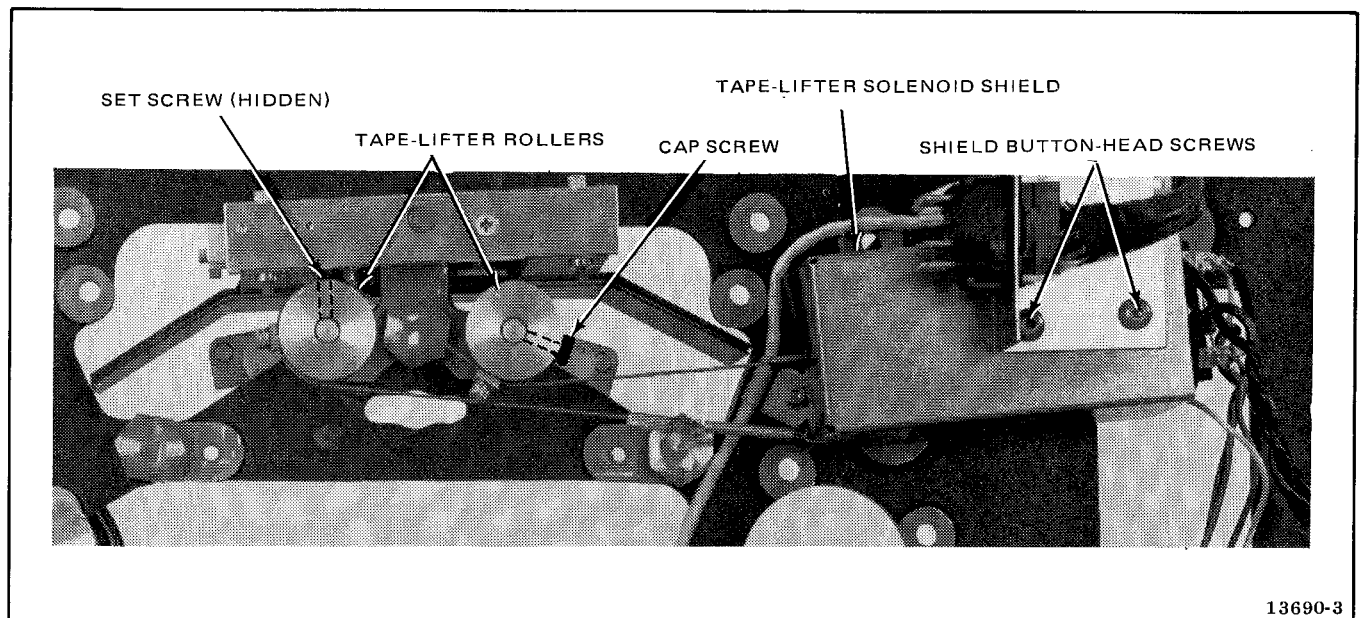

Figure 5-27. Tape Lifter Rollers and Solenoid, Rear View of Transport
2. Loosen two button-head screws (Figure 5-27) that hold the tape-lifter solenoid shield to the solenoid.
5. Loosen the 6-32 cap screw in the tape-lifter roller (Figure 5-27) nearest the tape-lifter solenoid. Then lightly tighten the screw to provide limited holding power against the tape lifter shaft.
10. Loosen the 6-32 setscrew in the roller (Figure 5-27) furthest away from the tape-lifter solenoid. Then lightly tighten the screw to provide limited holding power against the tape lifter shaft.